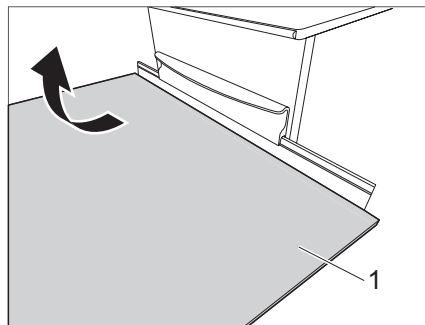

Fig. 32 Set up the table-top
- Swivel the table-top (Fig. 32,1) upwards and insert the support leg (see chapter 7.6.2).